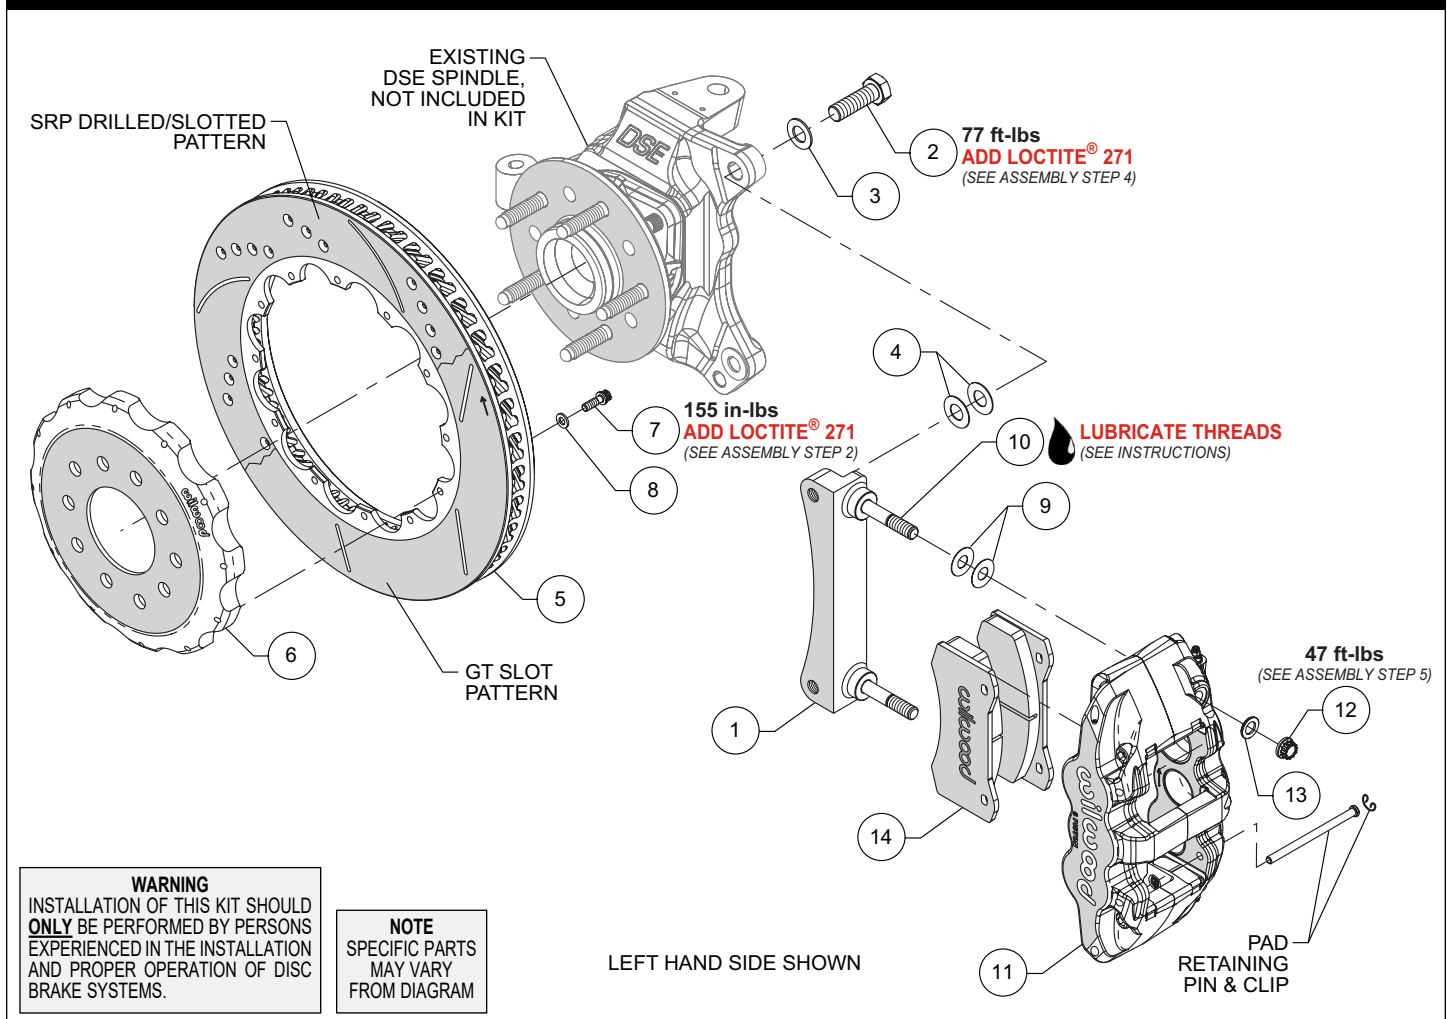
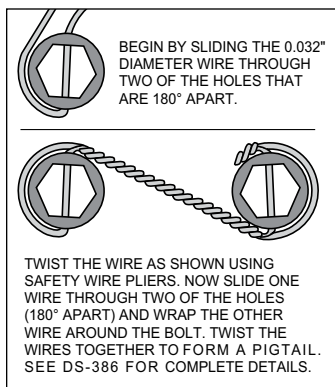

Figure 1. Typical Installation Configuration
Figure 3.
NOTE: Numbers in parenthesis refer to the parts list and Figure 1 on the preceding pages.
STEP 1 The caliper mount bracket (1) should initially be installed with clean, dry threads on the mounting bolts. Orient the bracket as shown in Figure 1 and Photo 1, and install using bolts (2) and washers (3). Initially place two .029 thick shims (4) on each
bolt between the bracket and upright, Figure 1 and Photo 2. Temporarily tighten the mounting bolts. **NOTE:** The bracket must fit squarely against the mount bosses on the upright. Inspect for interference from casting irregularities, machining ridges, burrs, etc. Later, after the caliper alignment has been checked, the mount bolts will be secured using red Loctite® 271.
STEP 2 Orient the rotor (5) and the hat (6) as shown in Figure 1 and Photo 3. Attach the hat to the rotor using bolts (7) and washers (8). Using an alternating sequence, apply red Loctite® 271 to the threads, and torque to value shown in Figure 1. For an added measure of security, the bolts may be safety wired using standard 0.032 inch diameter stainless steel safety wire as shown in Figure 3. Please refer to Wilwood's data sheet DS-386 (available at www.wilwood.com/Pdf/DataSheets/ds386.pdf) for complete safety wire installation instructions.
STEP 4 **NOTE:** This kit contains distinct right and left hand calipers that must be mounted in a specific direction, as described below. Lubricate the caliper mounting studs (10) with lightweight oil. Initially place two .016" thick shims (9) on each stud as shown in Figure 1 and Photo 5. Mount the caliper (11) onto the bracket (1) using lock nuts (12) and washers (13), Figure 1. Ensure that the caliper is mounted so that the largest pistons are at the rotor exit end of the caliper, in relation to the direction of rotor rotation. Temporarily tighten the lock nuts and view the rotor through the top
opening of the caliper. The rotor should be centered in the caliper, Photo 6. If not, adjust by adding or subtracting shims (4) between the bracket and the upright. Always use the same amount of shims on each of the two mounting bolts (2). Once the caliper alignment is correct, remove the bracket mounting bolts (2) one at a time, apply red *Loctite*® 271 to the threads, and torque to value shown in Figure 1.
STEP 5 Remove the caliper (11), then remove the two pad retaining pins from the caliper by carefully popping out the pin retaining clips and sliding out the pins. Insert the brake pads (14) into the caliper from the bottom with the friction material facing the rotor, Figure 1 and Photo 7. Secure the brake pads in place with the pad retaining pins and clips, Photo 8. Reinstall the caliper onto the caliper mounting bracket and temporarily tighten the lock nuts. Check that the top of the brake pad is flush with the outside diameter of the rotor, Photo 9. If not, adjust by adding or subtracting shims (9) between the caliper and the bracket. After the caliper pad height is set, torque the caliper lock nuts (12) to value shown in Figure 1.